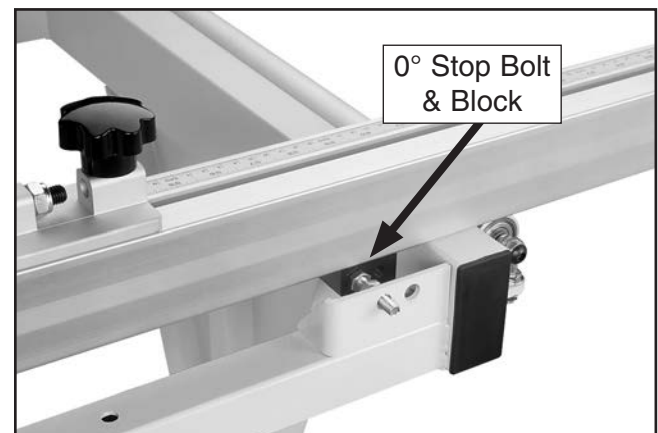

Figure 161. Stop block against 0° stop bolt.
3. Move crosscut fence stop block against 0° stop bolt (see **Figure 161**), then retighten pivot lock knob to secure fence in place.
8. Loosen hex nut on the 0° stop bolt shown in **Figure 161** on the previous page, rotate 0° stop bolt to square crosscut fence, then retighten hex nut.